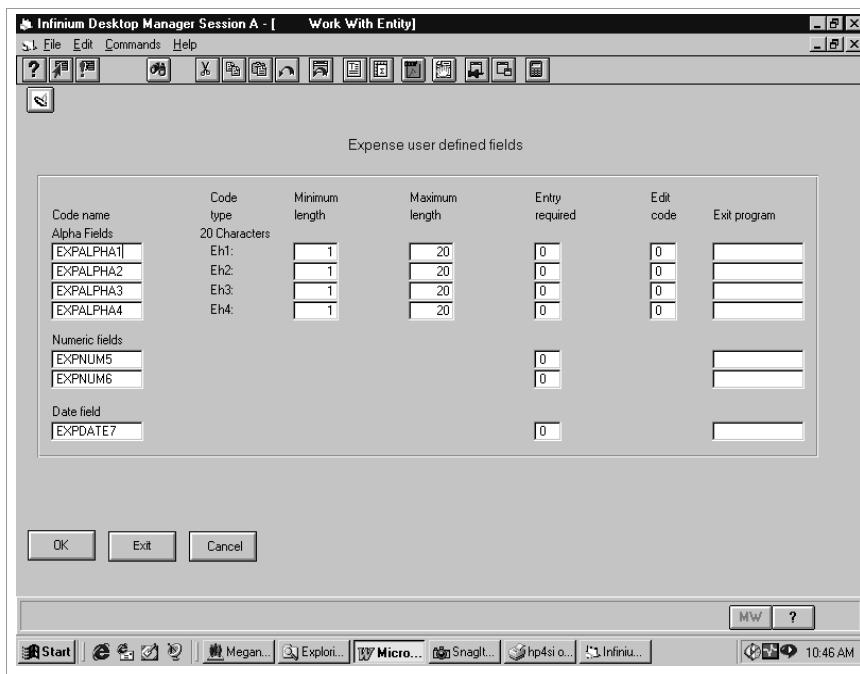

Figure 3-4: Work With Entity expense user defined fields screen
- 6 Select *Expense user defined fields*. Select **Change** or type **2** and press Enter. The system displays the Work With Entity expense user defined fields screen illustrated in Figure 3-4.